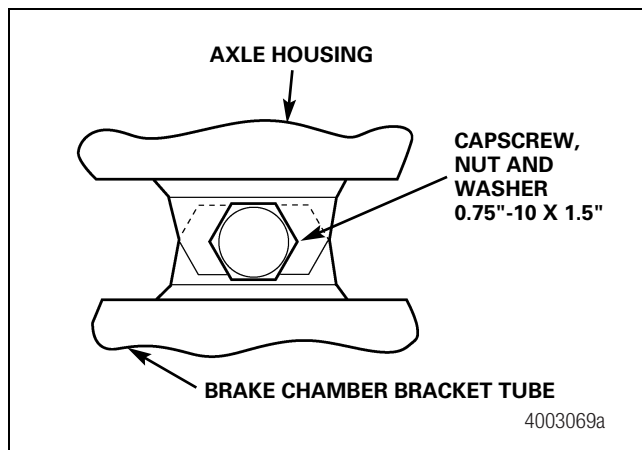

Figure 3.35
10. Use a 1-1/8-inch socket and wrench to install the brake camshaft bracket-to-housing capscrew and nut. Figure 3.35. Tighten them to 180-230 lb-ft (244-312 N•m).